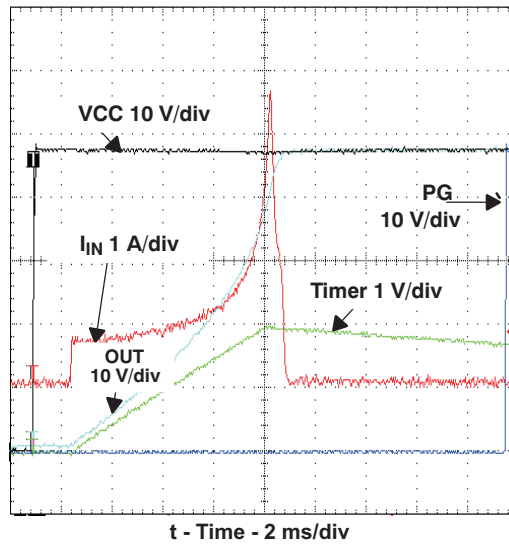
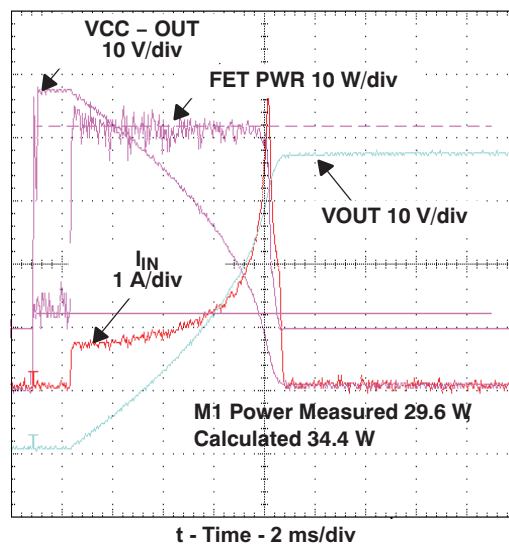
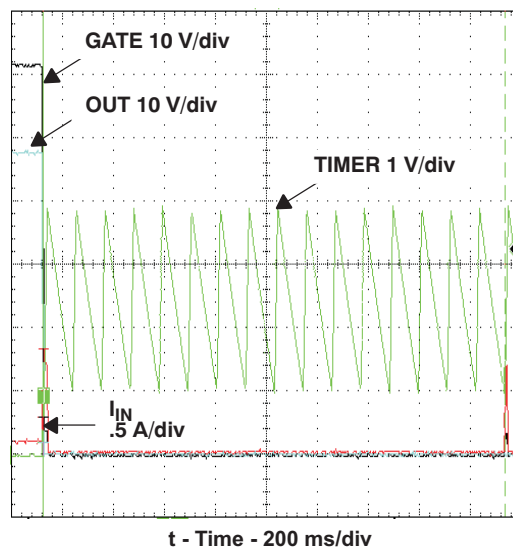

Figure 13. Basic Board Insertion
Figure 14. Computation of Q1 Stress During Startup
Figure 17. TPS2491 Restart Cycle Timing
A capacitor may be tied from PROG to ground to alter the natural constant power inrush current shape. If properly designed, the effect is to cause the leading step of current in Figure 13 to look like a ramp.
The typical application circuit, and oscilloscope plots of Figure 13 through Figure 17 demonstrate many of the functions described Device Functional Modes.
### 7.4.1 Board Plug-In (Figure 13)
### 7.4.2 TIMER and PG Operation (Figure 13)
7.4.3 Action of the Constant Power Engine (Figure 14)
The calculated power dissipated in Q1,  $V_{DS} \times I_D$ , is computed under the same startup conditions as Figure 13 . The current of Q1, labeled  $I_{IN}$ , initially rises to the value that satisfies the constant power engine; in this case it is  $34\text{ W} \div 48\text{ V} = 0.7\text{ A}$ . The 34 W value is programmed into the engine by setting the PROG voltage using Equation 2 given in the PROG.  $V_{DS}$  of Q1, which is calculated as  $V_{(SENSE-OUT)}$ , falls as  $C_O$  charges, thus allowing the Q1 drain current to increase. This is the result of the internal constant power engine adjusting the current limit reference to the GATE amplifier as  $C_O$  charges and  $V_{DS}$  falls. The calculated device power in Figure 14, labeled FET PWR, is seen to be flat-topped and constant within the limitations of circuit tolerance and acquisition noise. A fixed current limit is implemented by clamping the constant power engine's output to 50 mV when  $V_{DS}$  is low. This protection technique can be viewed as a specialized form of foldback limiting; the benefit over linear foldback is that it yields the maximum output current from a device over the full range of  $V_{DS}$  and still protects the device.
### 7.4.5 Automatic Restart (Figure 17)
A capacitor can be connected from the PROG pin to ground to reduce the initial current step seen in Figure 13 based on the Typical Application circuit. This method maintains a relatively fast turn-on time without the drawbacks of a gate-to-ground capacitor that include increased short circuit response time and less predictable gate clamping.